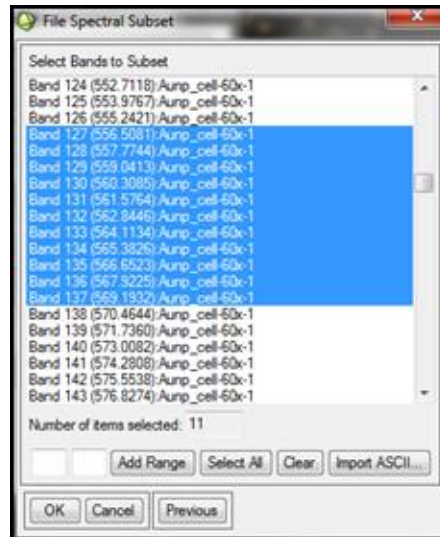

Figure 5.13c. File Spectral Subset Window
- Select the range of spectra to become the subset by clicking and scrolling (Figure 5.13c). To select non-contiguous values hit the Ctrl key.